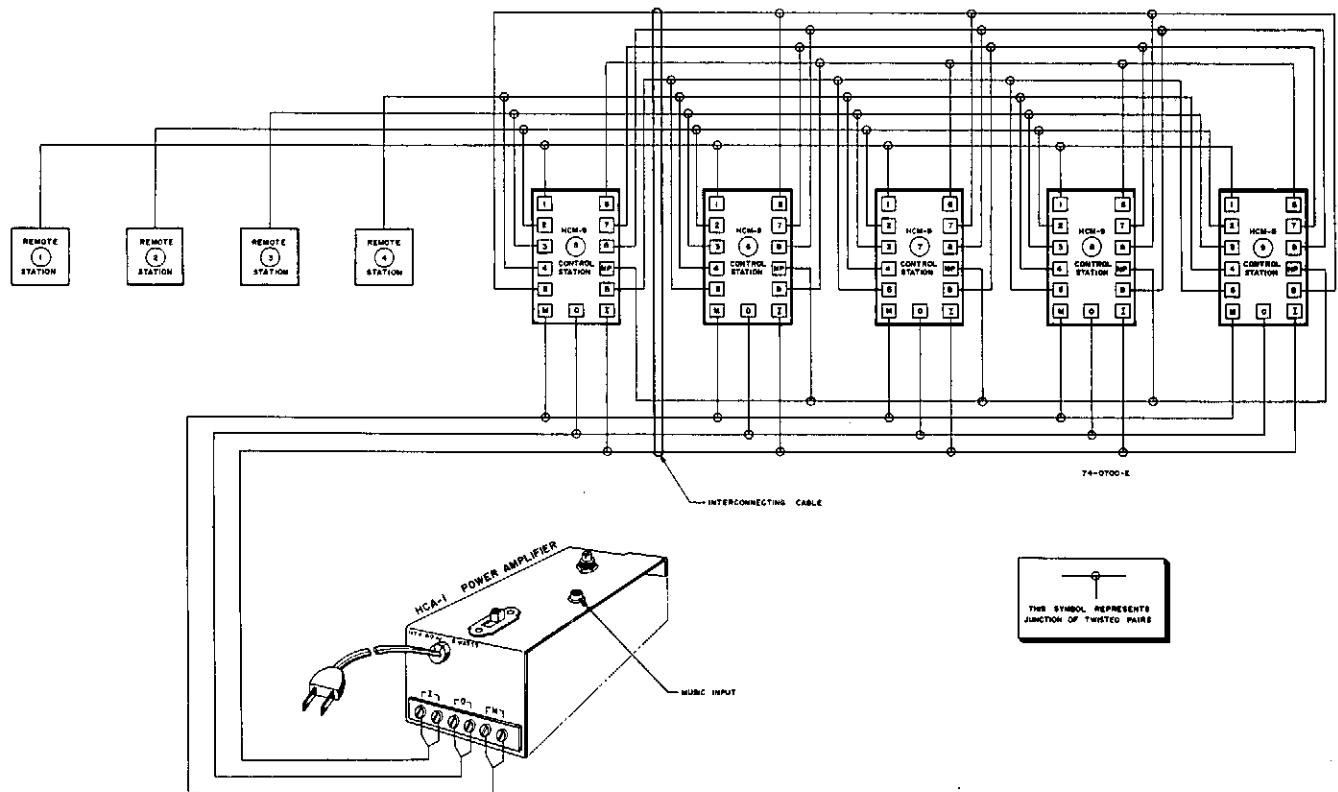

Figure 6 - Mixed System, Interconnection Diagram
The signal from the HCA-1 is made available by means of an unshielded cable consisting of three individually twisted pairs connected to the six-terminal board, marked "I", "O," and "M". These three (3) twisted pairs should be connected to the nearest control station corresponding terminals "I", "O," and "M". For connection diagrams, see figures 6 and 7. For schematic, see figure 8.
3. MIXED SYSTEM WIRING. (See figure 6)